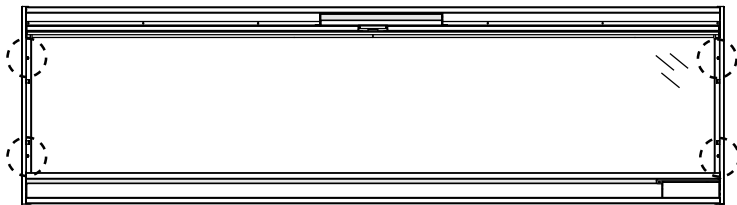

Fig. 2-5
4. Remove the plastic panel holding bracket by removing the screws (**Fig. 2-5 & 2-6**).